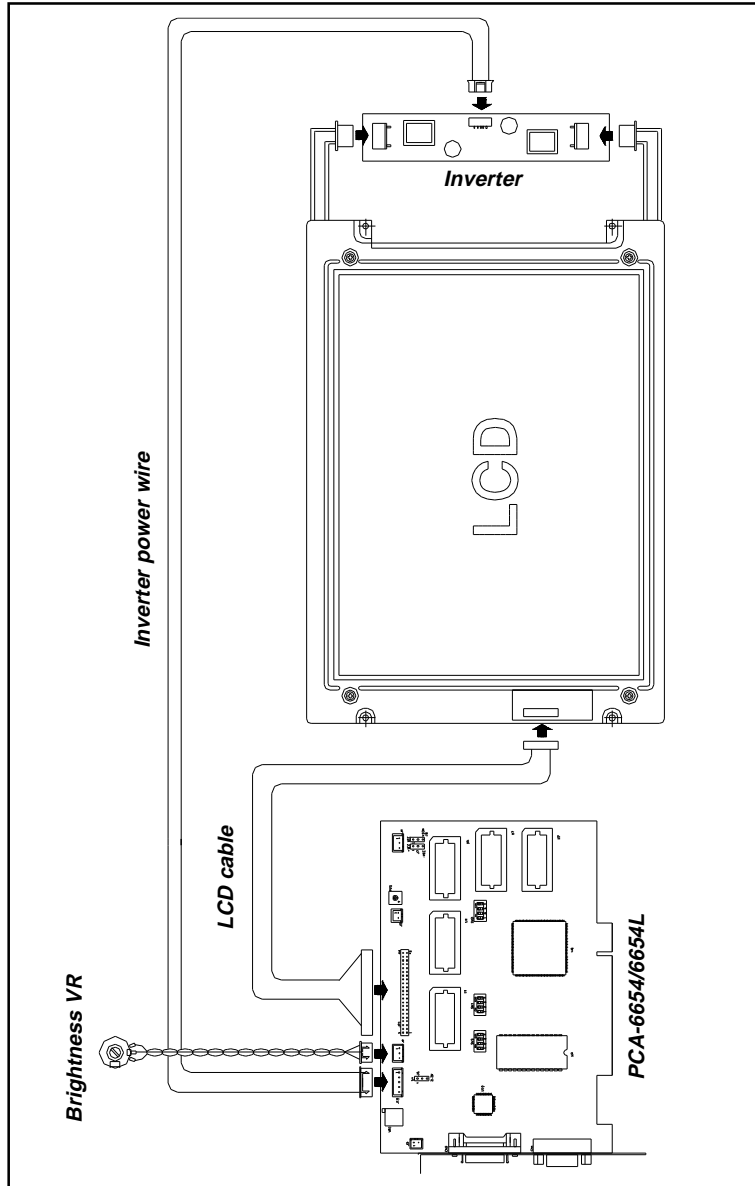

Figure 2-3: TFT LCD setup
6. Connect the LCD cable, inverter, inverter power wire, and VR assembly with wire to J9. (See Fig. 2-3.)